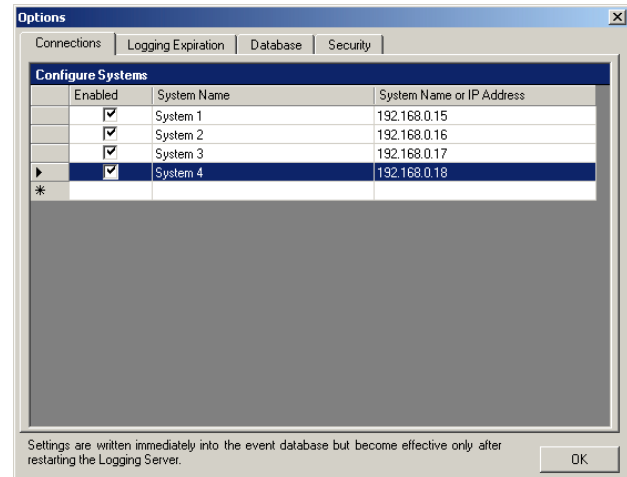

figure 49.9: Delete a system (1)
- 1 Click the field in front of the row that contains the system. For example, *System 4* (see figure 49.9).